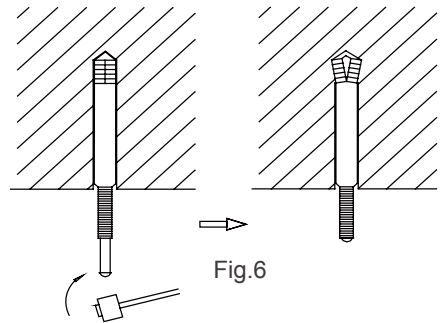

Fig.6
- (2) Insert the anchor bolts into the drilled holes, and drive the pins completely into the anchorbolts with a hammer. (Fig. 6)
- (3) Install the hanger to the unit.